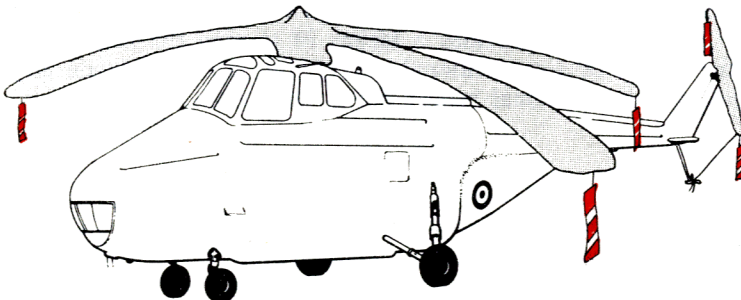

Fig 6 Protective covers
10. **Protective Covers.** Special covers are provided for both main and tail rotor blades (Fig 6). These covers should be fitted, to protect the rotor blades from heavy rain or strong sunlight, during long periods of parking. When fitting blade covers ensure that the warning pennants hang free.